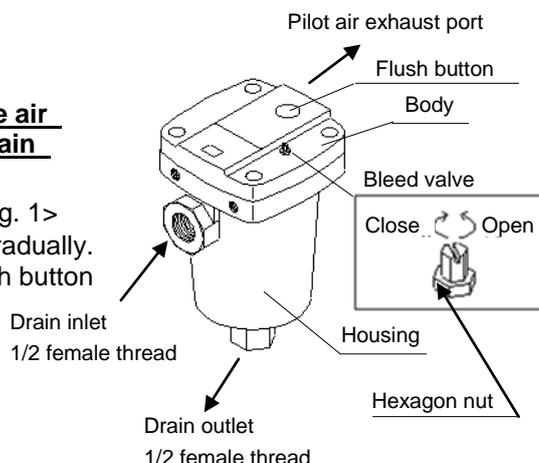

Fig.1 Name and Function of Parts
- \* Exhaust the compressed air from the auto drain < Fig. 1 >